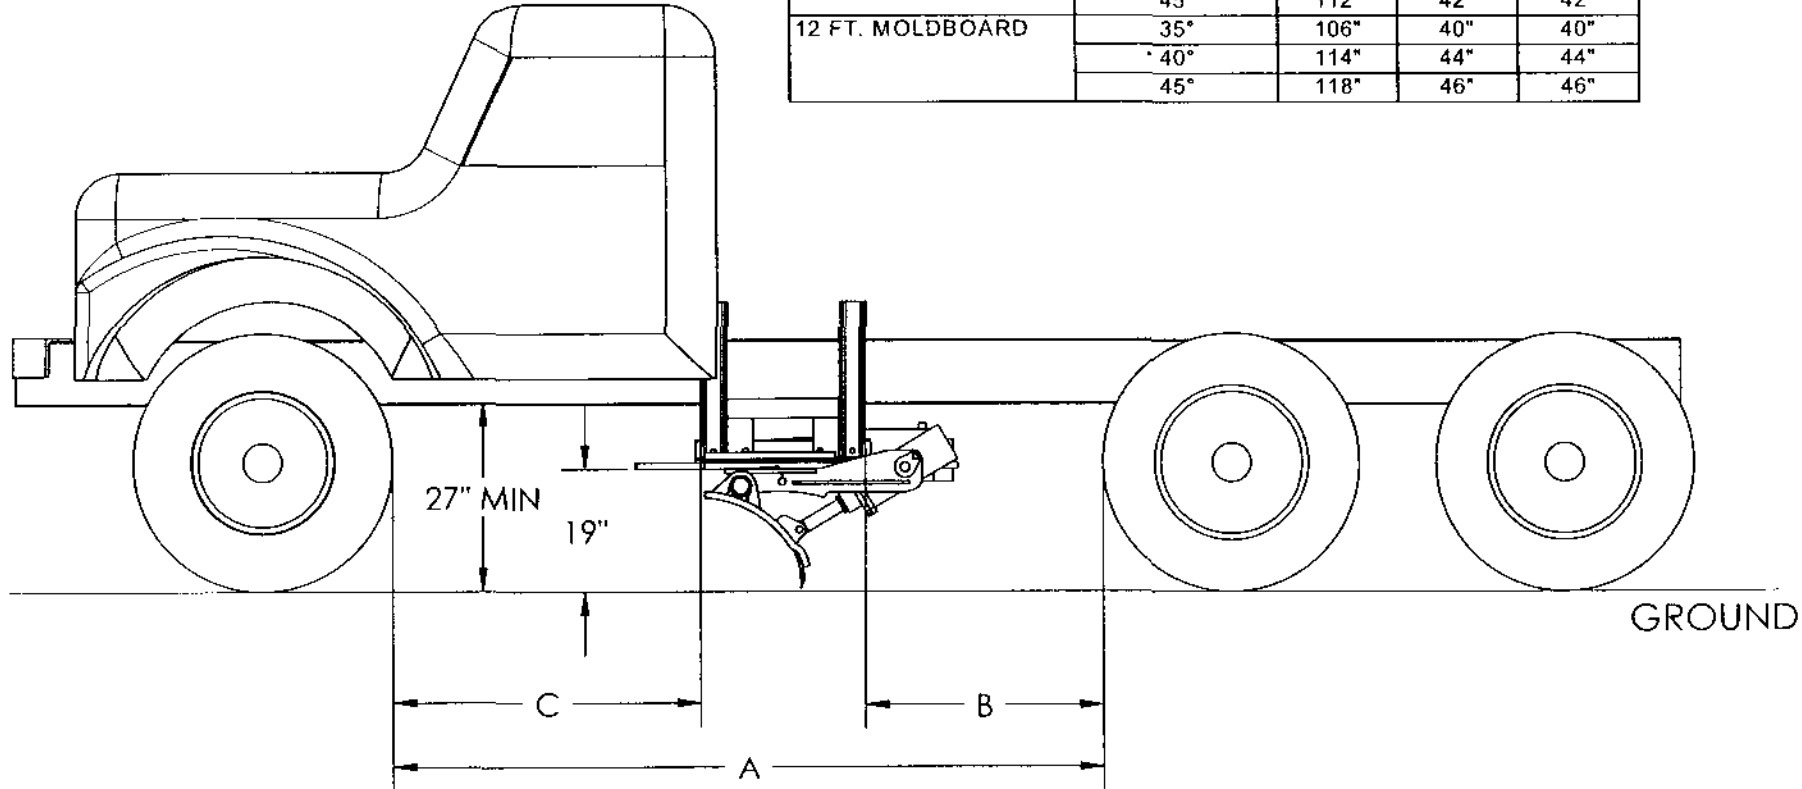

FIGURE 1 - TRUCK SIDE VIEW, UBS XH
3. Position the unit under the truck chassis **as shown in Figure 1**. Any obstructions which prevent mounting or proper operation of the unit must be relocated. **It is critical that the UBS is level and the proper distance from the ground – See Figure 1.**
4. Drill one 25/32" hole (saving room for a second hole later) through each mounting leg and the truck frame behind to achieve the proper positioning. Loosely bolt the four mounting legs to the chassis using (4) 7020255 ¾-10 x 2.5" Gr. 8 bolts, (8) 7040021 ¾ flat washers, and (4) 7030030 ¾ Gr. C toplock nuts to secure the unit in the proper position. **NOTE: Do not do any additional drilling or bolting until the entire unit is squared and the reversing swing of the moldboard is checked.** With the unit properly positioned, tighten the four bolts sufficiently to hold the unit in place for testing.